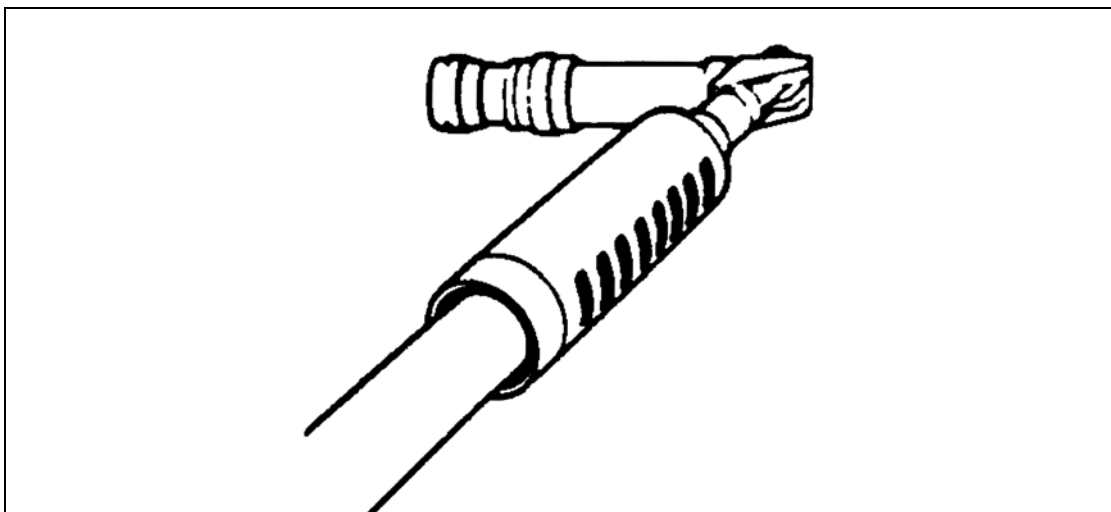

Figure B-9. Telescope facing to the *left*.
(5) Rotate the telescope and adapter together 180 degrees until the telescope faces left (Figure B-9).